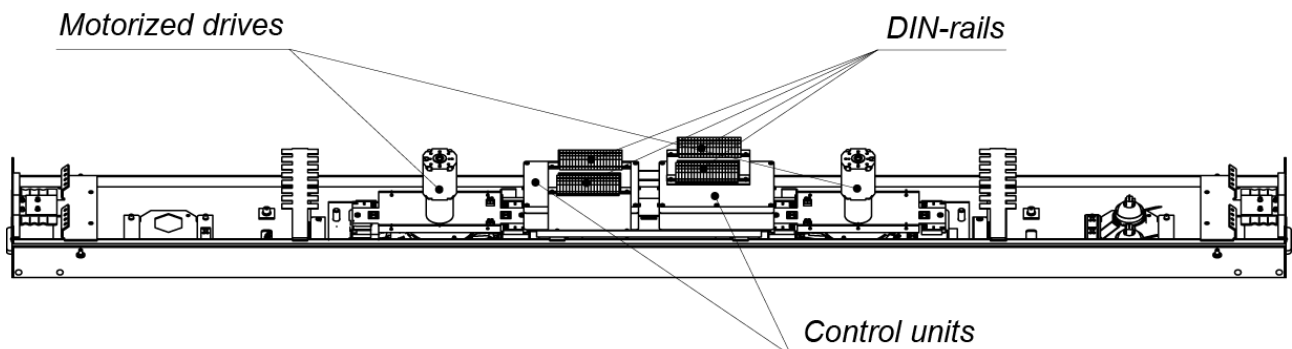

Figure 3. Top channel with cover off RTD-20.1 model
The **operating mechanism** of each OD is installed on a separate base. The shaft of the operating mechanism is connected to the rotor (1) shaft with the union joint (4) consisting of two half-couplings. The operating mechanisms of the **RTD-20.1** model includes also an electric gear motor (Fig. 3). In the single passage mode, at the beginning of the passage through the turnstile, the motor switches on as soon as the rotor is revolved about $>12^\circ$ and makes further automatic rotation in the direction of passage until the rotor is in the home position where it is securely locked. In the free passage mode, the electric motor switches into operation only to slow down the rotation of barrier wings near the home position.
The **control unit** (Fig. 3 and 4) of each OD is designed as a separate device in a plastic case and performs control over the turnstile in accordance with the algorithm and received control commands. The CU microcontroller processes incoming commands (contacts *Unlock A*, *Stop*, *Unlock B* and *Fire Alarm*), keeps track of the signals from the optical rotation sensors, optical sensors of the locking devices and from an intrusion detector (*Detector* contact). Basing on these signals the microcontroller generates commands to the turnstile operating mechanism and signals to the external devices: for control over indication on the RC-panel (*RC Led A*, *RC Led Stop* and *RC Led B*), signal of the rotor rotation in the respective direction (*PASS A* and *PASS B*), operation contingency signal (*Ready*), alarm signal (*Alarm*); and relays the current status of the intrusion detector (*Det Out*).
For connection convenience all the CU connectors are positioned on a DIN-rail (see Fig. 3 and 4, Table 1) mounted inside the top channel. There are two possibilities of cables wiring to the DIN-rail: